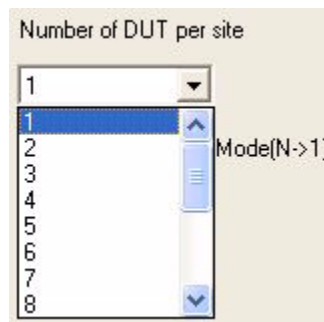

Figure 3-24. Number of DUT Per Site Drop-Down List Box
- 3 Selecting the down-arrow button on the right side of the Number of DUT per site field displays a drop-down list box that allows you to select the number of DUTs per site (Figure 3-24).